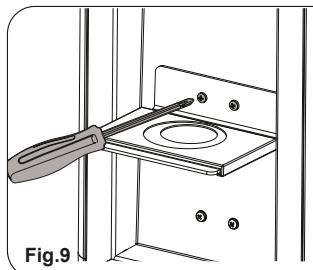

Fig.9
- Adjust the support base (7) so that the container is as close as possible to the dispensing nozzle (6)(Fig.9).
- Adjust the angle of the dispensing nozzle (6) so that it points into the centre of the container.
- To start grinding press the grinding start button (5).
- To stop the grinding press the button again (5).